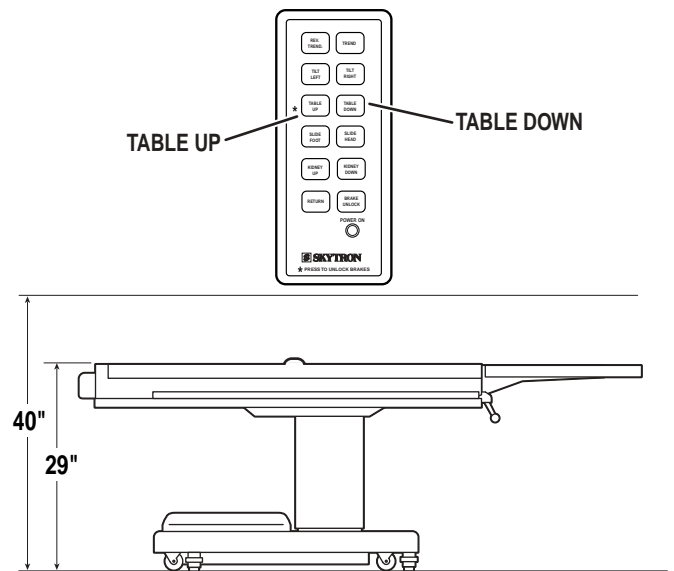

Figure 2-7. Elevation Function
e. Elevation. To raise table top, press the TABLE UP button (figure 2-7.). The table will lift a patient weight of 500 pounds up to a maximum height of 40". To lower the table top, press the TABLE DOWN button. The table top will go down to a minimum height of 29".